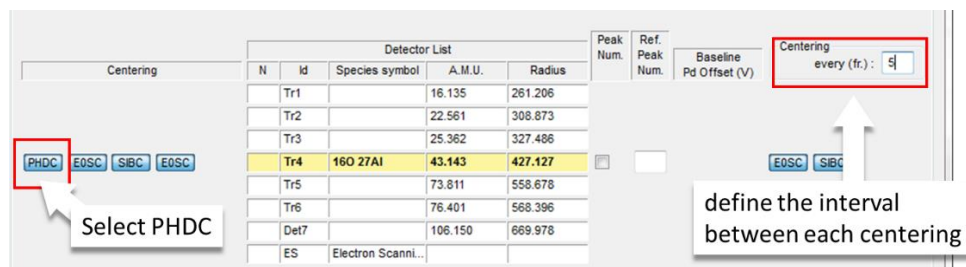

Figure 421: add automatic PHD adjustment to the analysis
- c. **PHD adjustment (EM only):** under “centering”, select “PHDC” and define the number of frames between each centering (Figure 421).